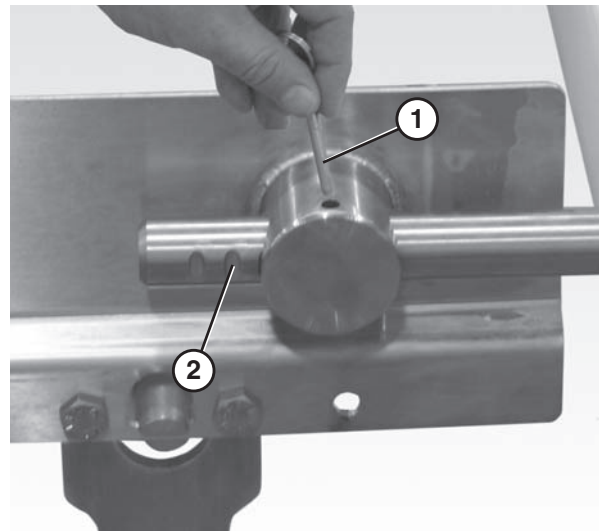

Figure 64
1. Remove both pull pins (**Figure 64, item 1**) on the tension end of the conveyor.
2. Extend the idler tail to the next groove (**Figure 64, item 2**) on the bearing shaft.